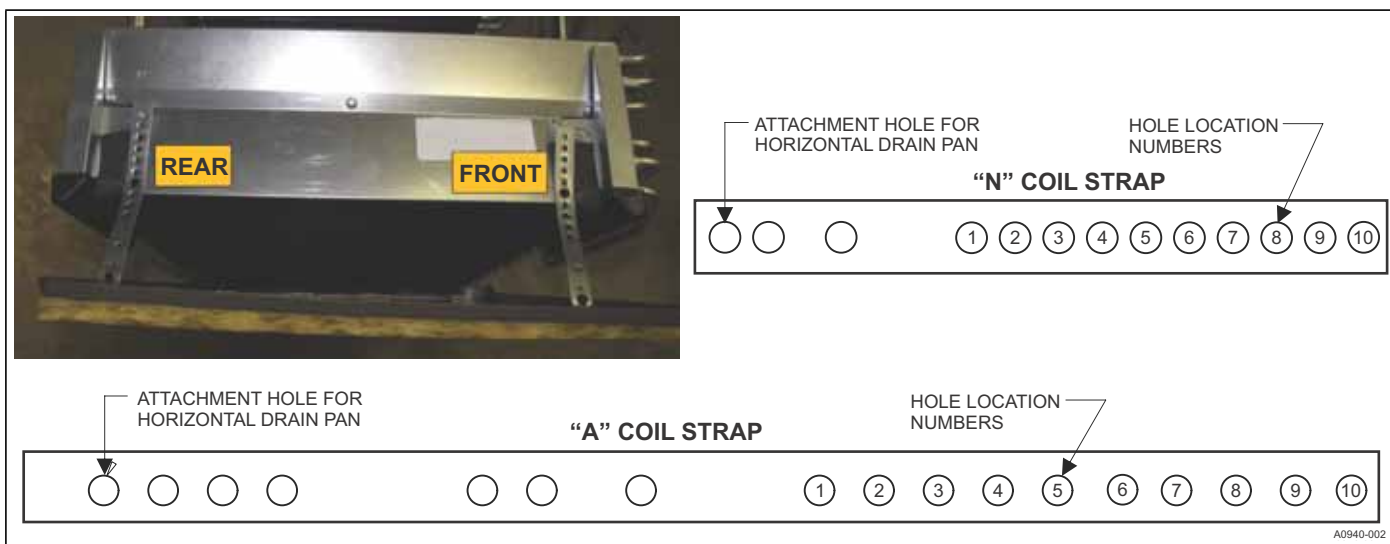

FIGURE 14: Horizontal Pan Adjustment Strap Hole Reference
For horizontal left applications, high airflow can prevent the collected condensate from draining properly since the direction of the airflow opposes the direction of the draining condensate. The horizontal pan must be angled properly in order to ensure proper drainage in high airflow applications. Ensure that the pan is angled properly by checking that the correct hole is used on the pan straps per TABLE 14. Use FIGURE 14 to identify the FRONT and REAR straps since, in some cases, these settings are not the same.
2. Remove grommets where tubes exit the cabinet to prevent burning them during brazing. In some units, the vapor line grommet may be shipped as a loose part with the unit. Refer to Figure 14.